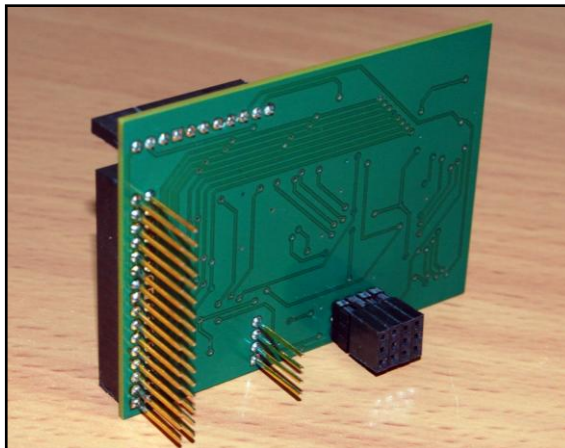

Figure 6: Bottom side of C3Synapse.
STEP 2: Prepare your PropC3 on the table and take your C3Synapse out from the plastic anti-static envelope. You should see the interface pins on the bottom side of the board. These pins have their corresponding headers on the PropC3 (Figure 6).